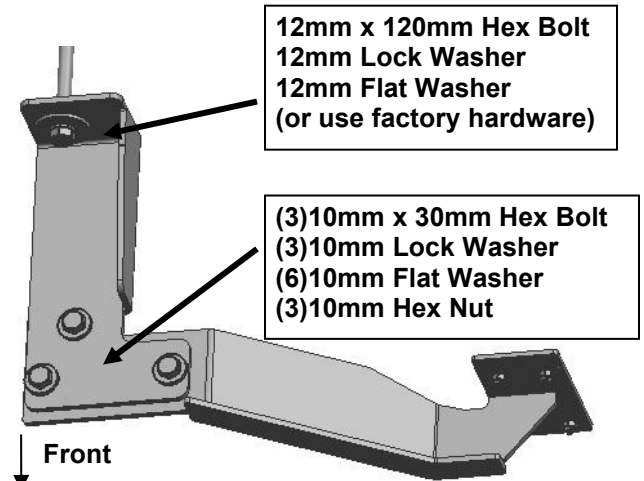

**Fig 6**
9. Move to the passenger side center location, Locate the holes in the side panel (remove sealing tape as necessary) for the Passenger Center Mounting Bracket, (typically one slot and two round holes). Insert one of the 10mm Bolt Plates w/ bend into the slotted hole and exit through the round hole, **(Figure 5)**. Thread (1) 10mm Plastic Retainer onto the threaded end of the Bolt Plate to prevent it from falling back into the body panel, **(Figure 6)**. **NOTE:** Some vehicles may have several holes in the side panel. To determine the correct mounting location, position the Passenger Center Mounting Bracket up and attach to the threaded insert**(Figure 7)**, Snug but do not tighten hardware at this time.